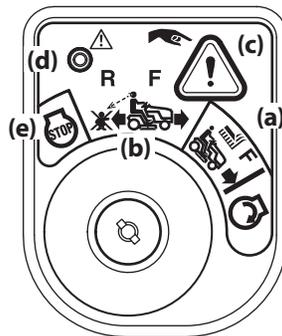

Figure 3-10
2. Turn the key from the NORMAL MOWING  (a) position to the REVERSE CAUTION MODE  (b) position of the ignition module. See Figure 3-10.
3. Press the REVERSE PUSH BUTTON  (c) at the top, right corner of the ignition module. The red indicator light (d) at the top, left corner of the ignition module will be ON while activated. See Figure 3-10.